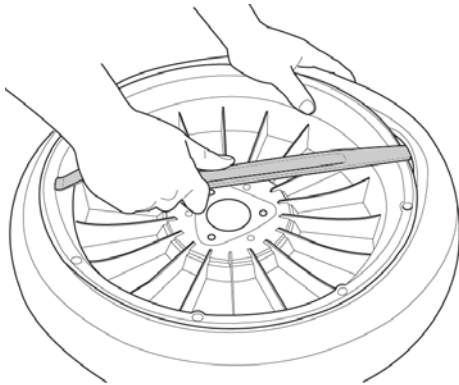

Figure 4-8: Insert First Tire Iron
6. Place wheel face down on a clean smooth surface. With inside of wheel facing up, pry one end of tire iron underneath lip of tire bead, pulling it up above rim (Figure 4-8).